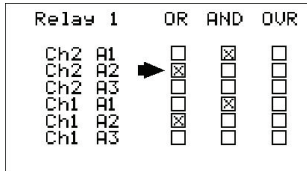

Figure 2-10. Set Relay Logic
- The Set Relay Logic menu shown in Figure 2-10 offers additional “voting” flexibility by controlling the channel alarm combinations that will trip this common alarm relay. “OVR” on the menu’s right side stands for override and means ANY of the selected alarms will activate the relay. The “OR” / “AND” columns work together based upon the following logic equation: